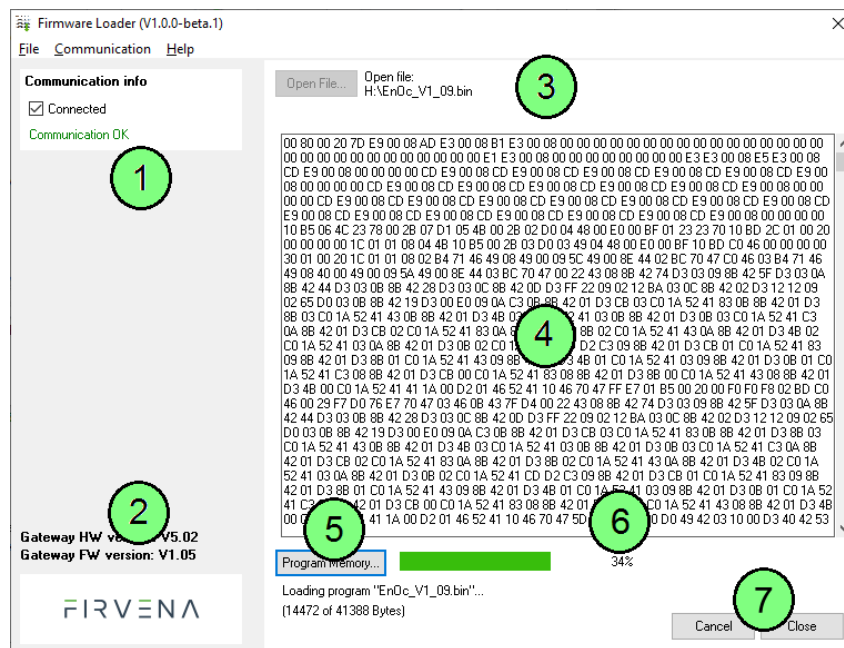

Fig. 4.1 Firmware Loader – main window overview
2. In the window shown, select the firmware file (Fig. 4.1 – 3).
3. By the “Program Memory” button start downloading of the firmware (Fig. 4.1 – 5).
5. Check firmware version (Fig. 4.1 – 2).